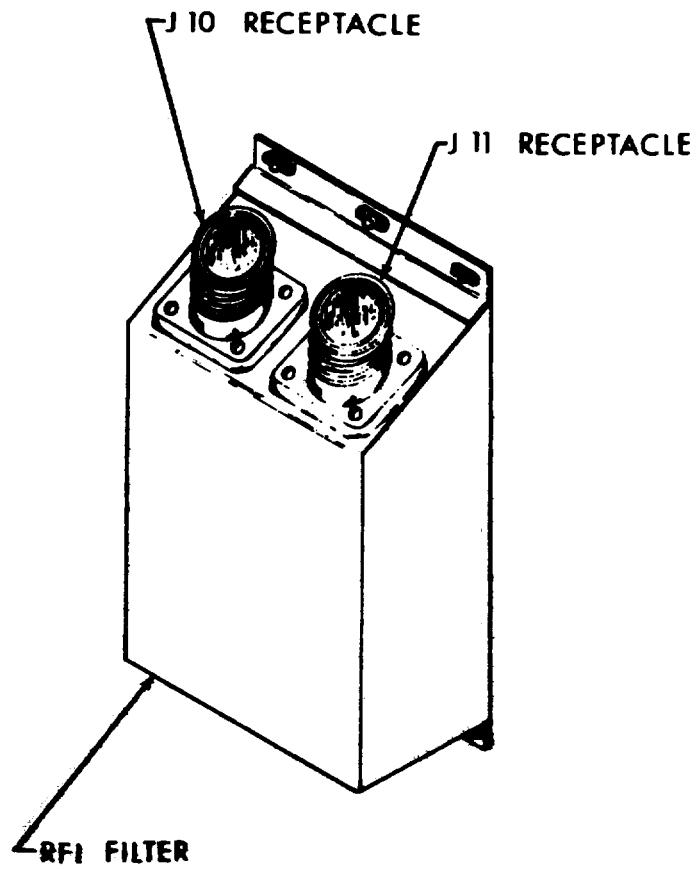

Figure 5-3. RFI Filter Details
Remove the radio frequency interference (RFI) filter from the air conditioner as indicated in the following procedure: (see figure 5-3).
- a. Position the filter housing (figure 5-3) on the mounting plate and secure with six screws.